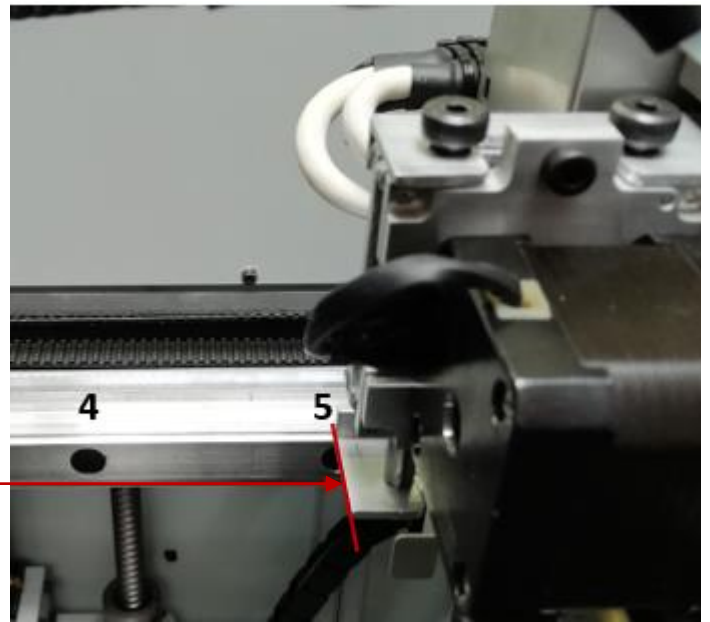

Fig. 38 Positioning the carriage on the Y axis
- The carriage on the Y axis shall be positioned as shown in Fig. 38. The marked sheet metal edge should be positioned in the middle of the black mounting hole of the linear guide, counting from the fan on the rear side of the printer (Fig. 38).